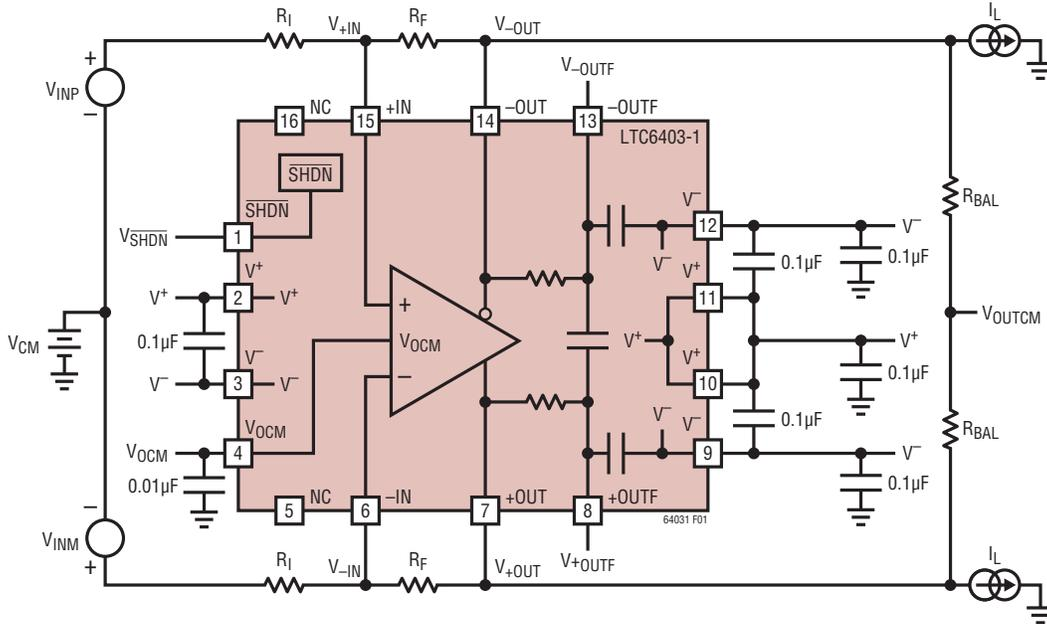

Figure 1. DC Test Circuit
**Note 7:** Input common mode range is tested using the test circuit of Figure 1 by measuring the differential gain with a  $\pm 1\text{V}$  differential output with  $V_{\text{ICM}} = \text{mid-supply}$ , and also with  $V_{\text{ICM}}$  at the input common mode range limits listed in the Electrical Characteristics table, verifying that the differential gain has not deviated from the mid supply common mode input case by more than 1%, and the common mode offset ( $V_{\text{OSCM}}$ ) has not deviated from the mid-supply case by more than  $\pm 10\text{mV}$ .
The voltage range for the output common mode range is tested using the test circuit of Figure 1 by applying a voltage on the  $V_{\text{OCM}}$  pin and testing at both mid supply and at the Electrical Characteristics table limits to verify that the differential gain has not deviated from the mid supply  $V_{\text{OCM}}$  case by more than 1%, and the common mode offset ( $V_{\text{OSCM}}$ ) has not deviated by more than  $\pm 10\text{mV}$  from the mid supply case.
The input impedance looking into the  $V_{INP}$  or  $V_{INM}$  input of Figure 1 depends on whether the sources  $V_{INP}$  and  $V_{INM}$  are fully differential. For balanced input sources ( $V_{INP} = -V_{INM}$ ), the input impedance seen at either input is simply: